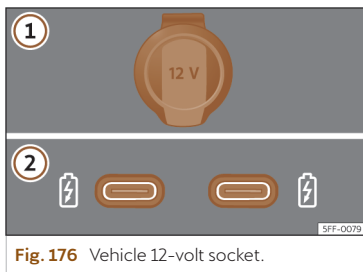

Fig. 176 Vehicle 12-volt socket.
>>> **Fig. 176**
Depending on the equipment and the country, the vehicle may also have USB connections **exclusively for charging or as a power socket** >>> **Fig. 176 ②**.